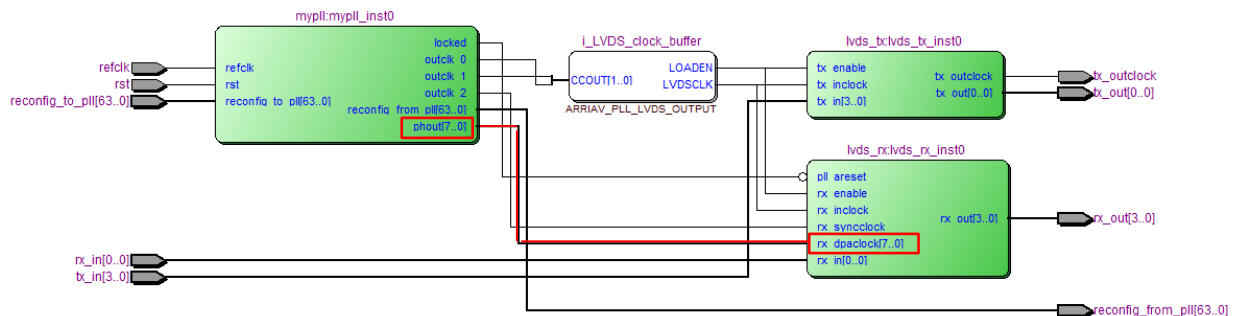

Figure 4-4: ALTLVDS_RX DPA mode design implementation
- e) In your design, connect the PLL “phout” output to the ALTLVDS_RX “rx_dpaclock” input as shown in Figure 4-4.